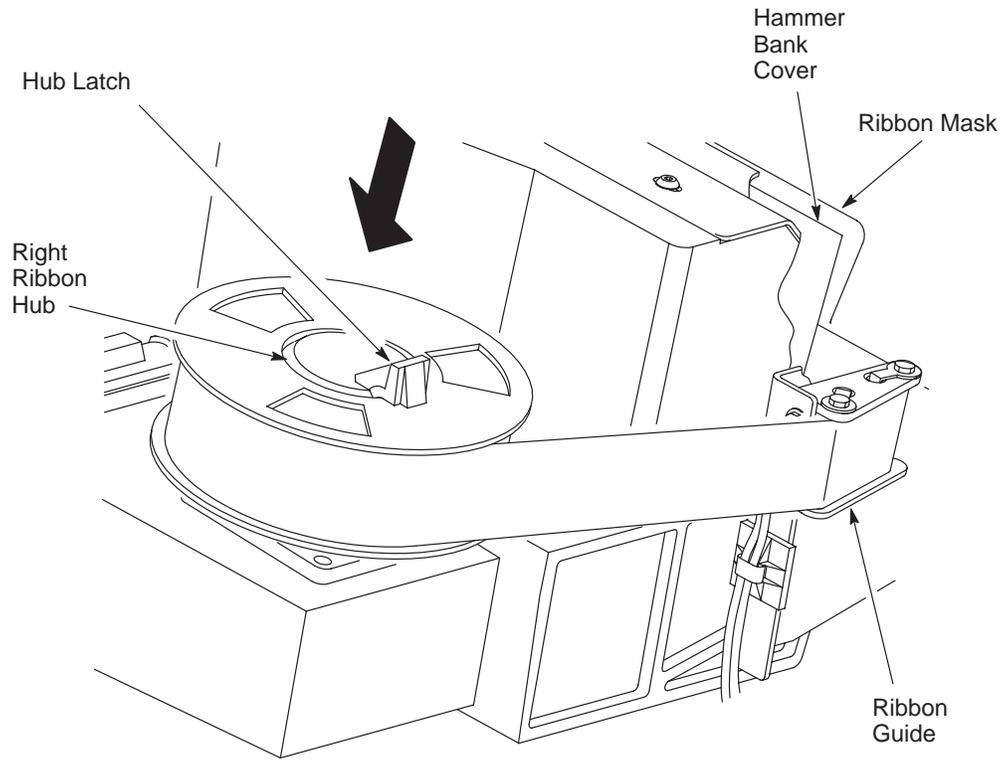

Figure 2–20. Right Ribbon Hub
7. With the ribbon to the outside, squeeze the right hub latch and place one spool on the right ribbon hub. Press the spool down until the hub latch snaps into place. (See Figure 2–20.)